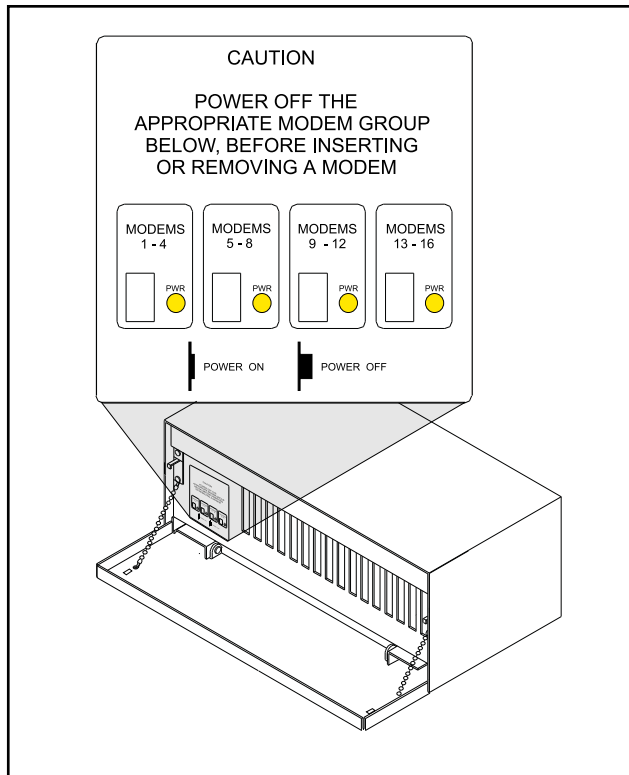

Figure 6-5. Modem group power switches
- Power on the appropriate modem group(s) on the front of the chassis and verify the LED is lit (see Figure 6-5).